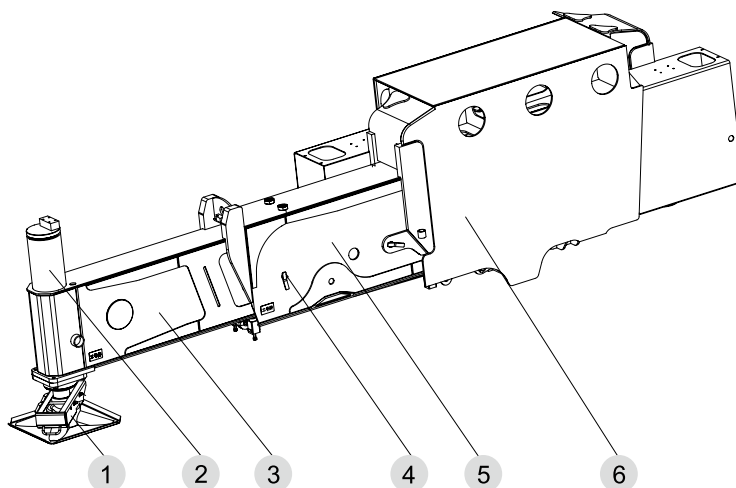

Figure10-10 Outrigger structure sketch
1. Outrigger structure as shown in figure 10-10.